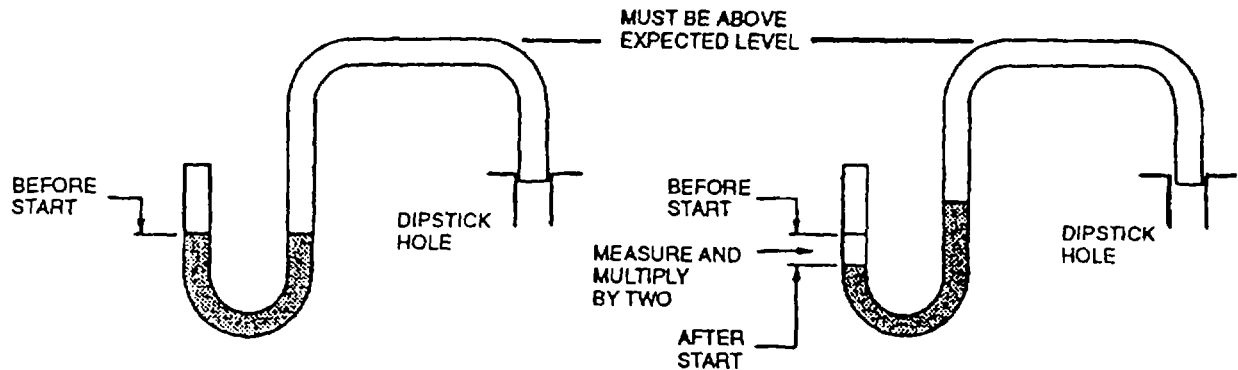

FIGURE 3-1. Locally Manufactured Water Manometer
- b. If water manometer is available, connect one end of a 0.374 in. (9.5 mm) OD plastic tube to a water manometer. Insert other end of tube into dipstick hole, refer to FIGURE 3-1.